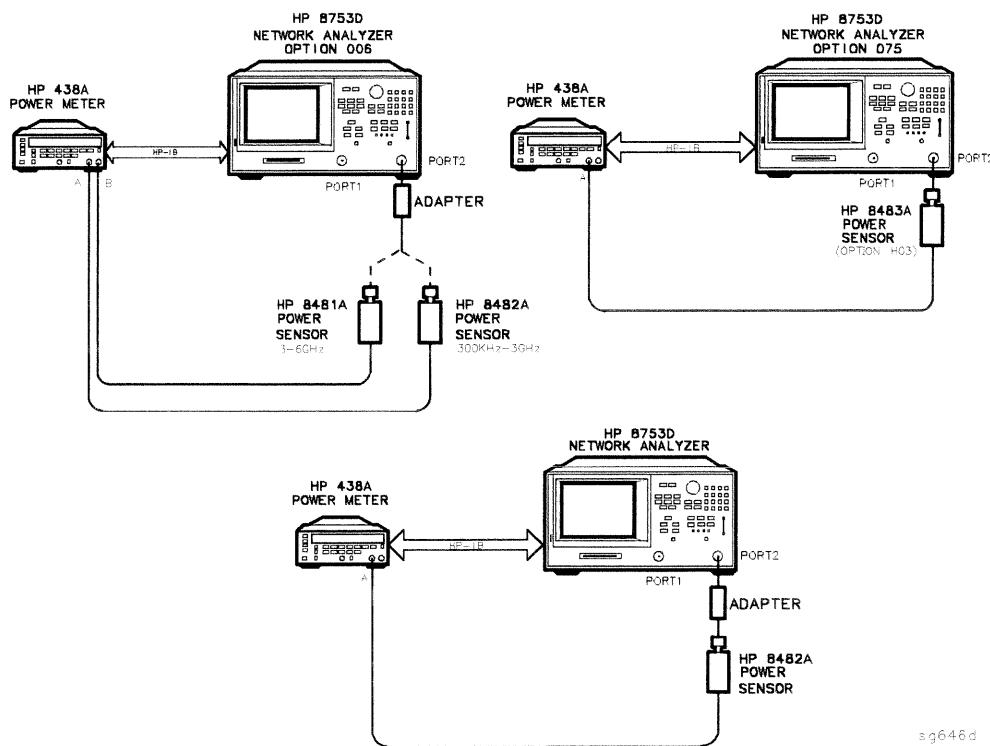

Figure 3-8. Connections for Sampler Correction at Port 2
20. When the analyzer displays CONNECT <3 GHz SENSOR A TO PORT 2, make the connections as shown in Figure 3-8.